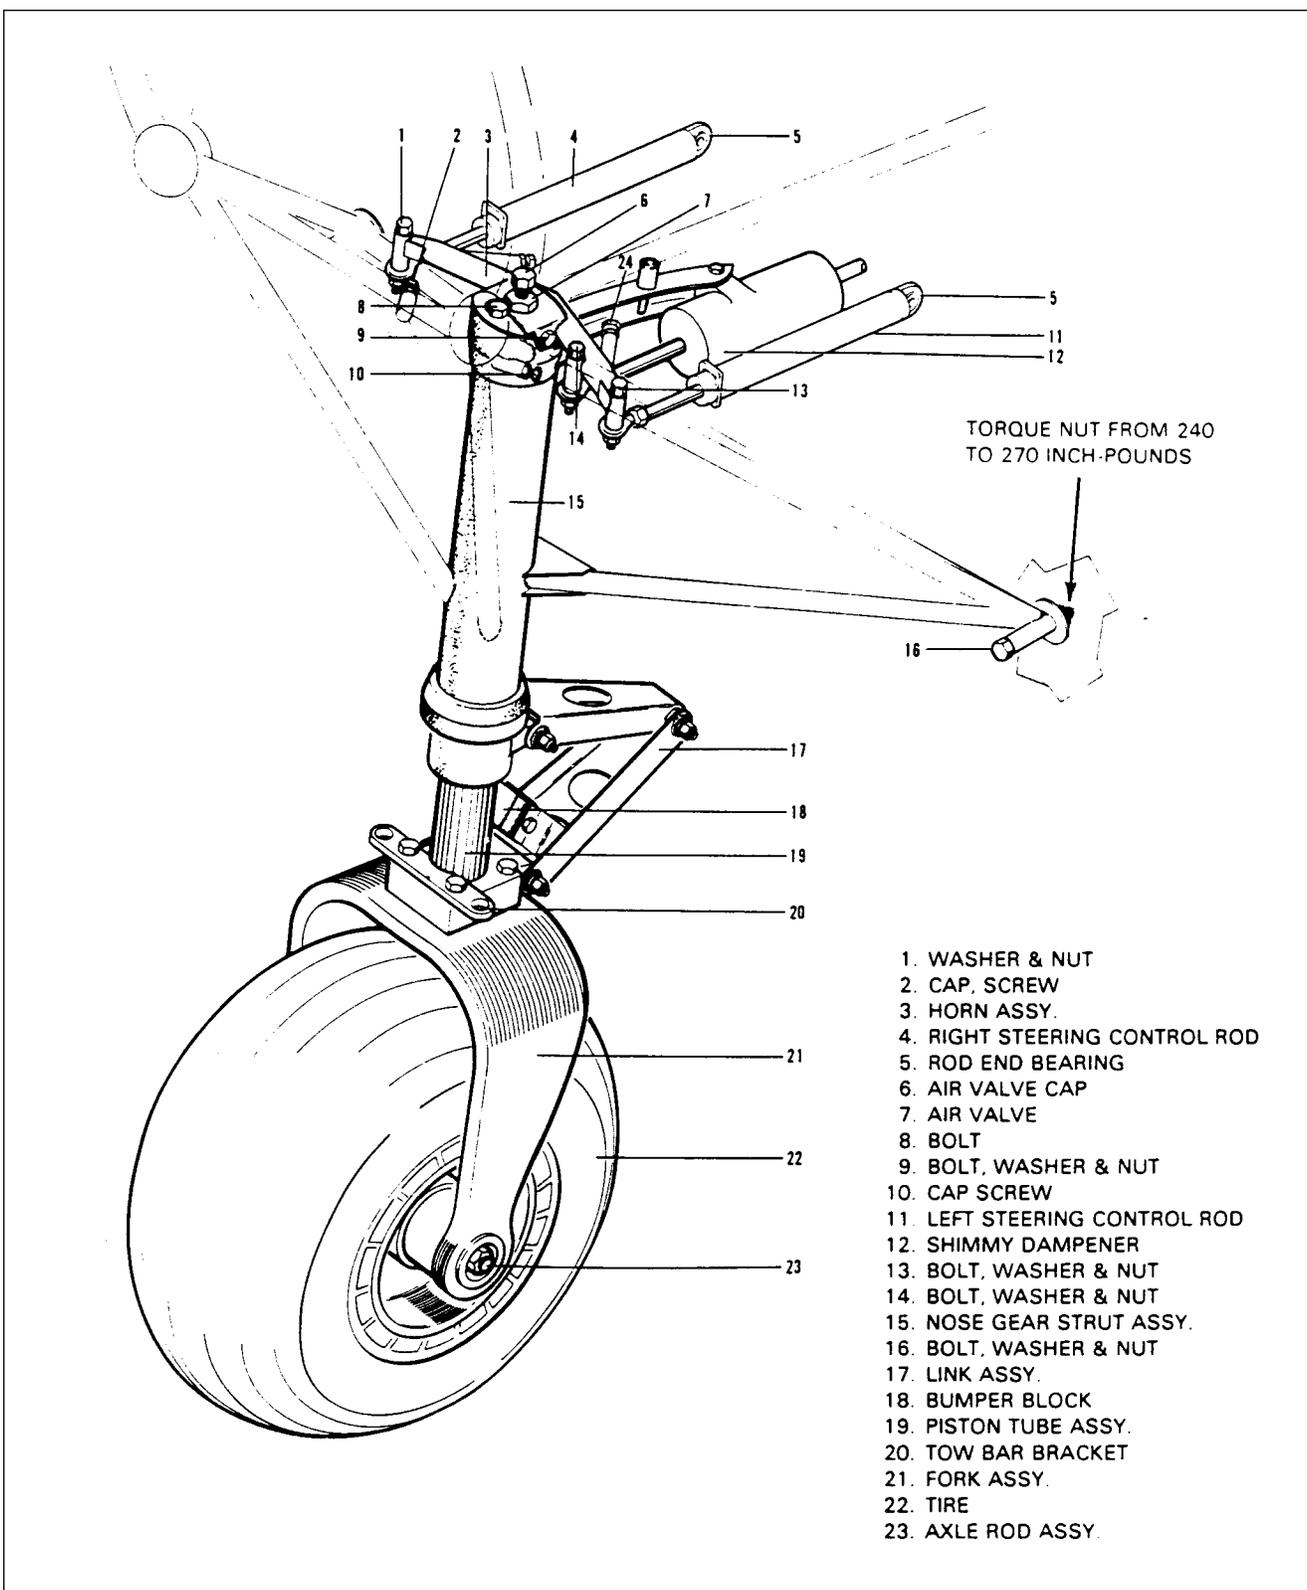

Figure 32-4. Nose Gear Installation
**REMOVAL OF NOSE LANDING GEAR** (figure 32-4)
**INSTALLATION OF NOSE LANDING GEAR** (figure 32-4)